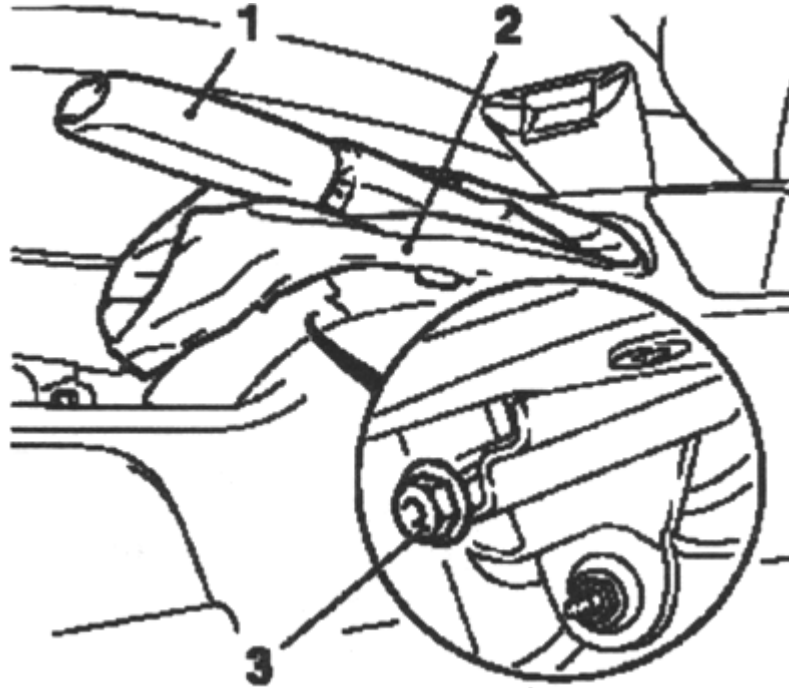

Fig. 4.48. Attenuation Rope parking brake:
Release the handbrake lever (1) and disconnect the hand brake lever cover (Figure 4.48).